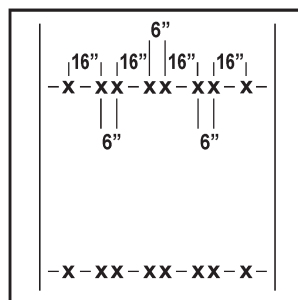

Figure 33
5. Measure and mark 16 inches, then 6 inches, and repeat as shown until a sufficient number of letters are marked out (see Figure 33).